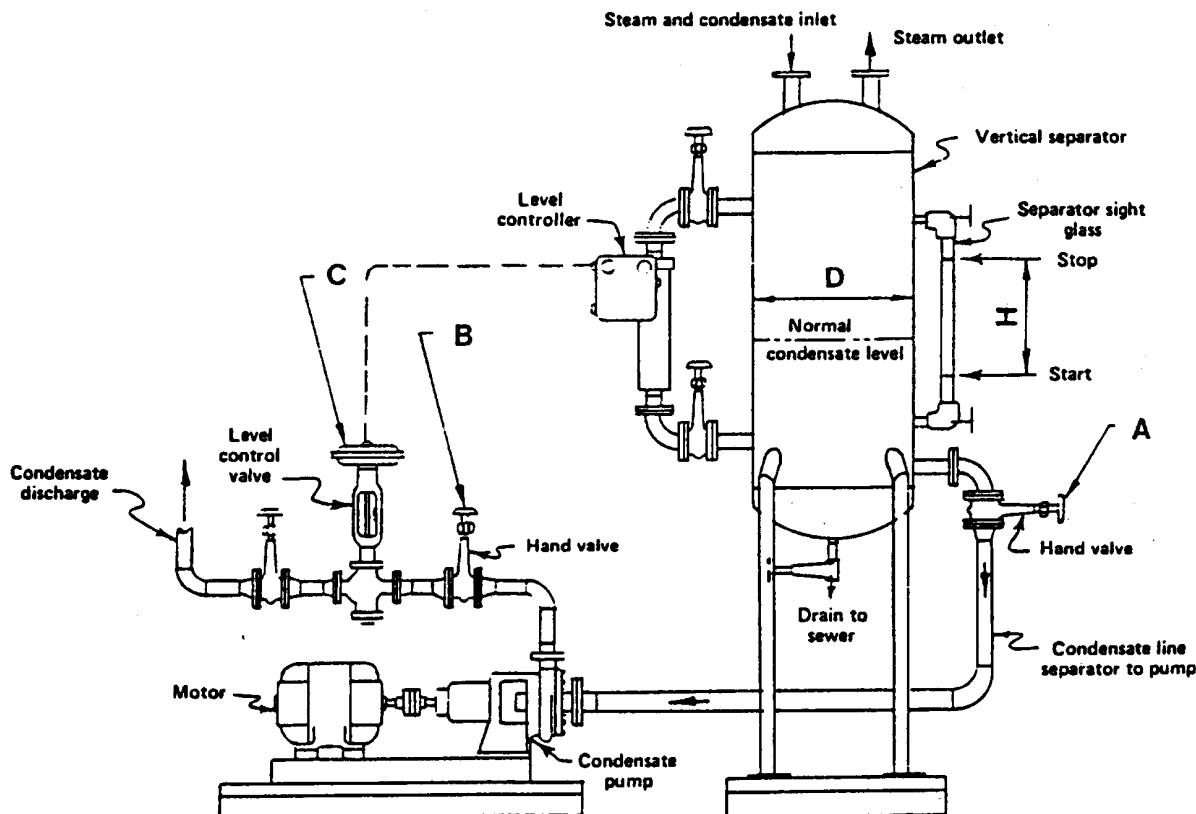

Fig. 1. Diagram showing location of valves.
1. Mark start and stop lines on the separator sight glass (see Fig. 1). Normally these marks should be 100 to 300 mm (4 to 12 in.) apart to provide an accurate measure of the condensate rise. The greater the condensate rise, the greater will be the measurement accuracy. An alternative to marking start and stop lines on the level gauge is to hang a tape measure (lockable type) on the level gauge. This is easier than marking lines and it allows the tester to shorten or lengthen the rise distance, if desired.